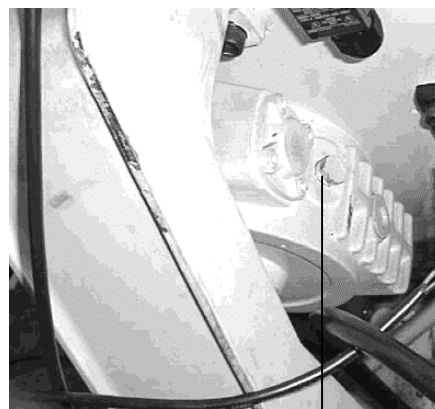

Fig.22
4. Drain the gearbox by removing the screw away from the oil-out hole (A) (fig. 22).